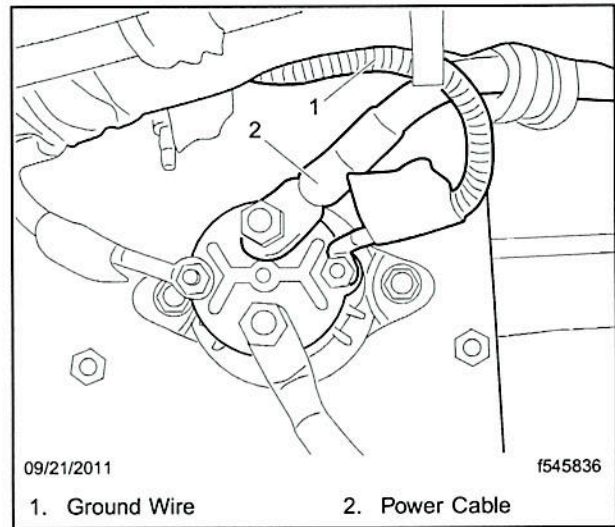

Fig. 2, Ground Wire Routed Above the Grid Heater
1. Split the harness loom open so that the ground wire can be pulled out to the right, directly above the grid heater relay, as shown in **Fig. 2**.
3. Route the ground wire as shown in **Fig. 2**.